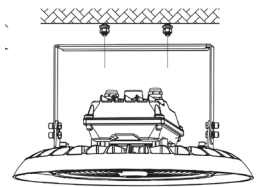

Fig. 5
5. Install the fixture (with the attached Yoke Mount), put the washer and nut back on, then tighten. (Fig. 5 & 6)